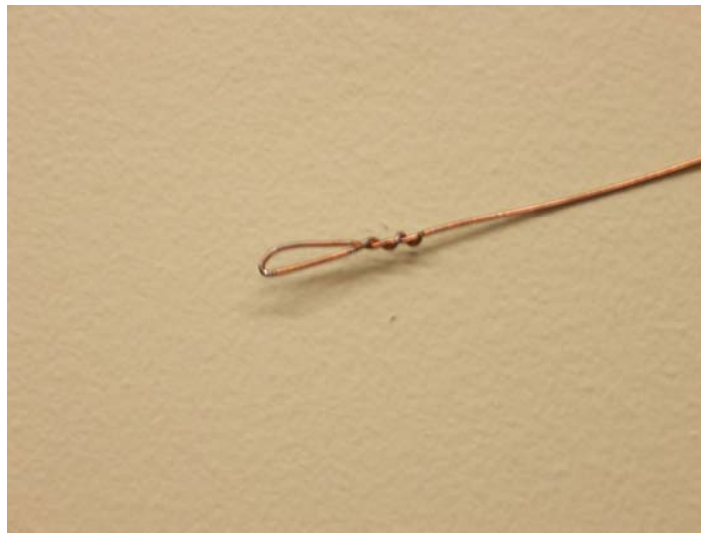

Figure 3
**Step 4.** Use a small gauge wire as a wire “fish” to pull the case grounding wire up the motor shaft/tube to the motor control box. (see Figure 3) Re-assemble the motor lower unit in proper order replacing motor thru bolt o-rings, etc..., as needed. Use care when re-assembling the lower unit to make sure that the motor brush wires, motor case grounding wire, brush shunt wires, and transducer lead (if a Universal Sonar model) do not contact or rub the motor armature commutator or windings.